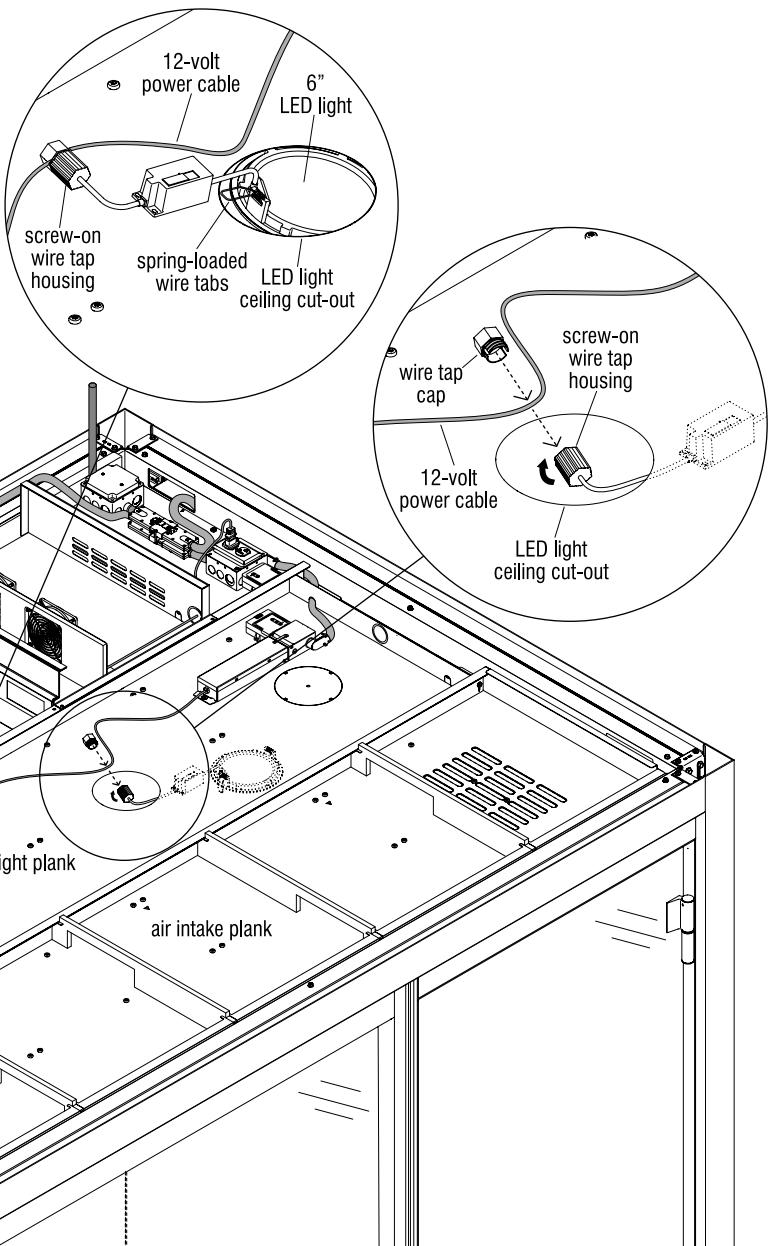

Figure 2
**Note:** The Figure 2 illustrations show the connection of lights from above the ceiling for clarity, but having at least one person working inside the super structure, under the light openings is required.
5. From inside the super structure, under one light cut-out location at a time, pull a loop of self-healing 12-volt power cable down through the light cut-out. Take the light fixture assembly in hand, hold the wire-tap cap, and twist to un-screw the screw-on wire-tap housing from the cap. Insert the loop of cable into the slot in the wire-tap cap, align the metal prong of the wire-tap housing with the slot in the cap, join the two together and twist the wire-tap housing to tighten and connect the 12-volt cable to the light (Figure 2).
6. Next, push the connected loop of cable and the Kelvin light color selector box up onto the ceiling. One side at a time, pull up on a spring-loaded wire tab and insert it first through the light cut-out, rotating the fixture up and inserting the second spring-loaded wire tab through the cut-out to hold the fixture in place when fully inserted into the ceiling (Figure 2).
7. Repeat steps 5 and 6 for the next light fixture to be installed to the ceiling plank (Figure 2).
11. Go back to the previous page (Page 82, steps 4 through 7) to reference installation of lighting fixtures to this page's light plank #2 light openings (Figure 2).